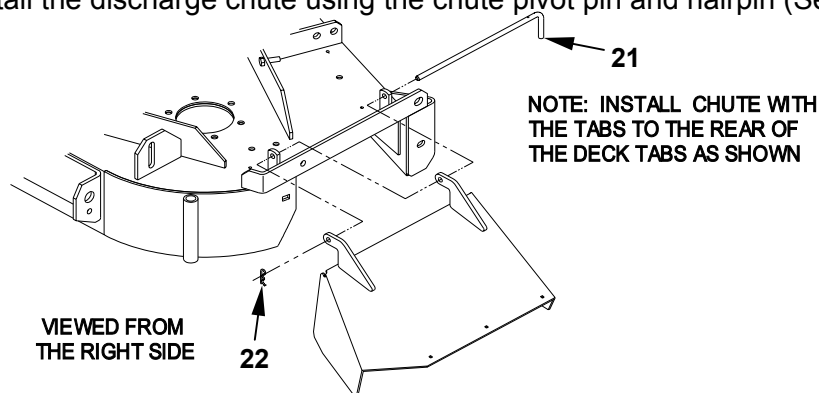

FIGURE 8
- 3.3.6 Install the discharge chute using the chute pivot pin and hairpin (See Figure 8).